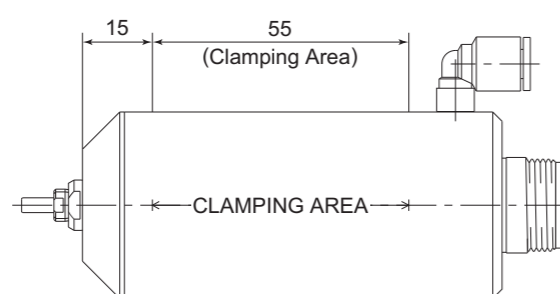

Fig. 5
- When mounting a Spindle, refer to the Clamping Area etched on the Spindle (Fig. 5).